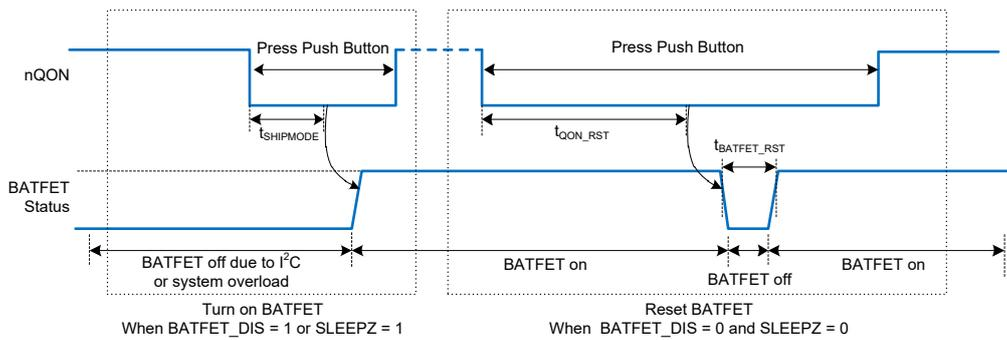

Figure 9. nQON Enable and Reset BATFET Timing
1. Enable BATFET: Applying an nQON logic high to low transition with longer than $t_{SHIPMODE}$ deglitch time (negative pulse) turns on BATFET to exit ship mode (Figure 9 left). HIZ is also enabled (EN_HIZ = 1) when exiting shipping mode. After exiting shipping mode, the host can disable HIZ (EN_HIZ = 0). OTG cannot be enabled (BST_CONFIG = 1) until HIZ is disabled.
2. Reset BATFET: By applying a logic low for a duration of at least t_{QON_RST} to nQON pin while VBUS is not powered and BATFET is allowed to turn on (BATFET_DIS bit = 0), the BATFET turns off for t_{BATFET_RST} and then it is re-enabled resulting in a system power-on reset. This function can be disabled by clearing BATFET_RST_EN bit (Figure 9 right).